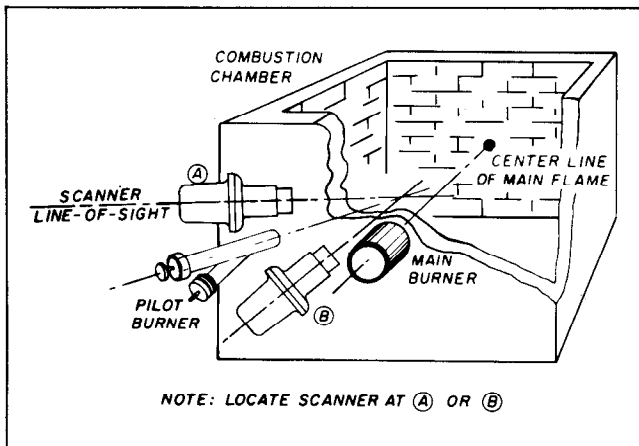

Figure 2
1. The sight pipe on which the scanner mounts must be aimed such that the scanner sights a point at the intersection of main and pilot flames. This usually places the sight tube in an area between main and pilot burners (Figure 2). An acceptable location must assure the following: